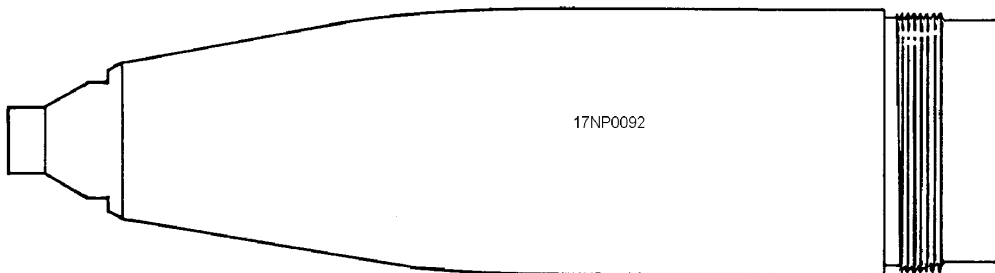

Figure 2-8.—Mk 24 Mod 0 high-explosive, general-purpose (GP) warhead.
**GP WARHEAD.**—The high-explosive, general-purpose (GP) warhead (fig. 2-8) is a compromise between the armor-piercing and the fragmentation designs. The walls and nose section are not as strong as those of an armor-piercing warhead, yet they are stronger than those of a fragmentation warhead. The explosive charge is greater than that in the armor-piercing warhead, but less than that in the fragmentation warhead.